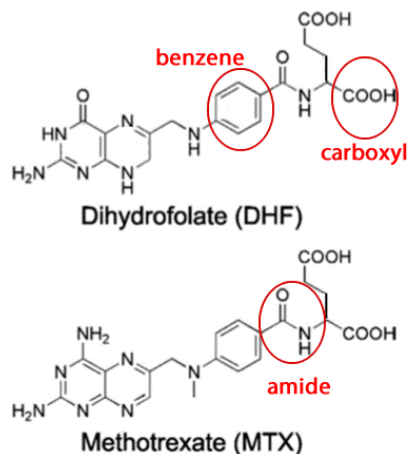

Figure 1
b) Using the diagram in Figure 1, clearly name and circle three distinct functional groups present in MTX and DHF 2 marks